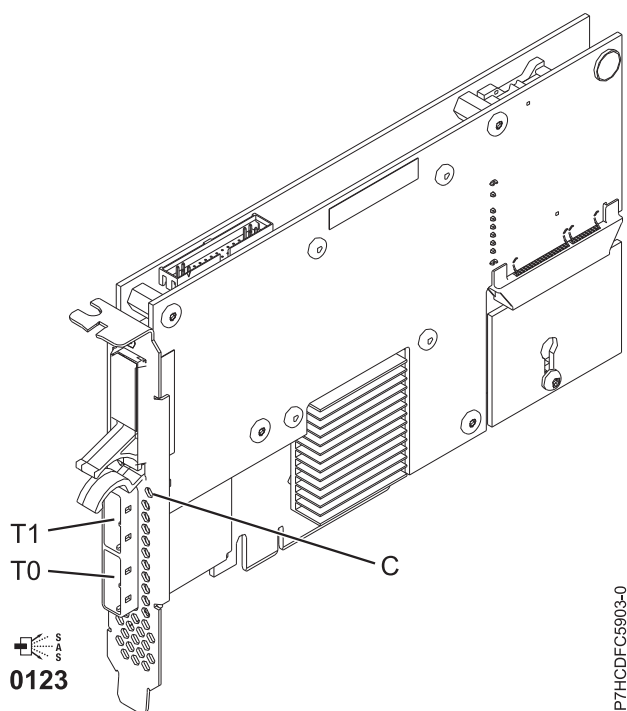

Figure 97. PCIe Dual - x4 3 Gb SAS RAID Adapter
The 5903 or 5805 contains a LED ((C) in Figure 97 on page 299) that flashes if the cache data is present. The cache-data present LED flashes when there is possible data in the cache on the adapter. If the cache data present LED is flashing, do not replace the cache battery pack. If replaced when the LED is flashing, the cache data is lost. See Figure 97 on page 299 to locate the cache-data present LED on this adapter.